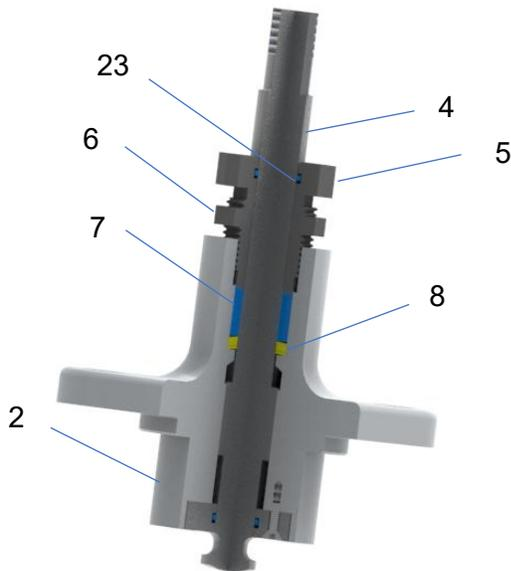

Figure 11
- 11.16. Insert the 4 Belleville washers over the stem (4) and into the bonnet (2) as shown Figure 11.
- 11.18. Insert the packing (7) over the stem (4) and into the bonnet (2) as shown in Figure 11.
- 11.20. Insert o-ring (23) into bushing (5) as shown in Figure 11.
- 11.22. Thread jam nut (6) onto the threads of bushing (5) as shown in Figure 11.